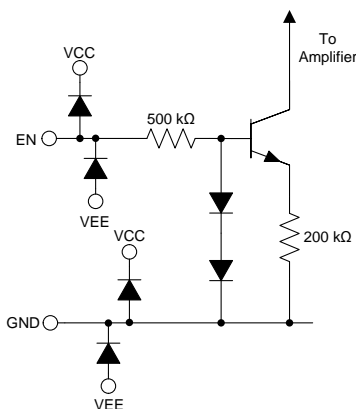

Figure 46. EN Pin Simplified Internal Schematic
The enable pin (EN) of the INA1620 is used to toggle the amplifier enabled and disabled states. The logic levels defining these two states are: $V_{EN} \leq 0.78 \text{ V}$ (shutdown mode), and $V_{EN} \geq 0.82 \text{ V}$ (enabled). These threshold levels are referenced to the device ground (GND) pin. The EN pin can be driven by a GPIO pin from the system controller, discrete logic gates, or can be connected directly to the V+ supply. Do not leave the EN pin floating because the amplifier is prevented from being enabled. Likewise, do not place GPIO pins used to control the EN pin in a high-impedance state because this placement also prevents the amplifier from being enabled. A small current flows into the enable pin when a voltage is applied. Using the simplified internal schematic shown in Figure 46, use Equation 4 to estimate the enable pin current:
As illustrated in Figure 46, the EN pin is protected by diodes to the amplifier power supplies. Do not connect the EN pin to voltages outside the limits defined in the Specifications section.
The inclusion of a ground (GND) pin in the INA1620 architecture allows the internal enable circuitry to be referenced to the system ground, eliminating the need for level shifting circuitry in many applications. The internal amplifier compensation capacitors are also referenced to this pin, greatly increasing the ac PSRR. For highest performance, connect the GND pin to a low-impedance reference point with minimal noise present. As shown in Figure 46, the GND pin is protected by ESD diodes to the amplifier power supplies. Do not connect the GND pin to voltages outside the limits defined in the Specifications section.